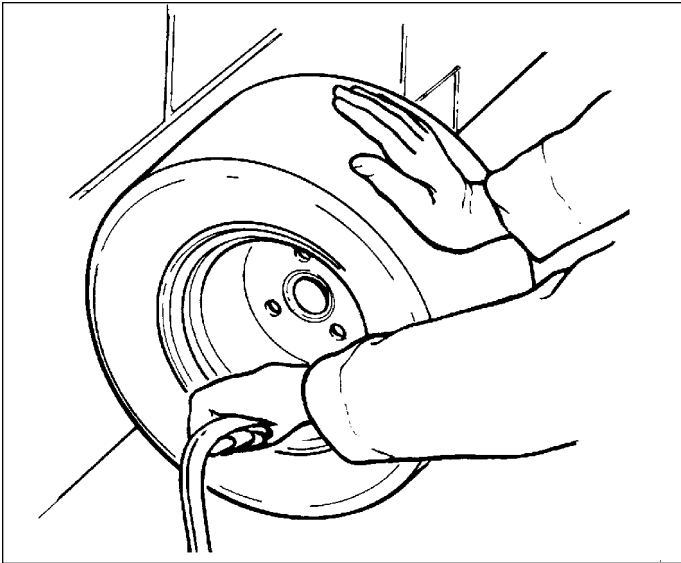

Figure 14 - Tire Inflation
8. Place tire upright against wall and push against tire on side opposite wall. This 3-point contact will tend to bring bead out to contact wheel so that internal pressure is formed and beads snap into place as air is applied through valve stem. See Figure 14.